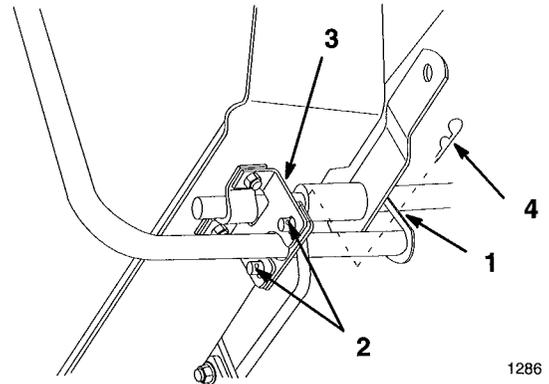

Figure 16
16. Hook end of crank handle support over cross shaft (Fig. 16). Rotate to align pins with holes in handle bracket and secure with hairpin cotters (Fig. 16).